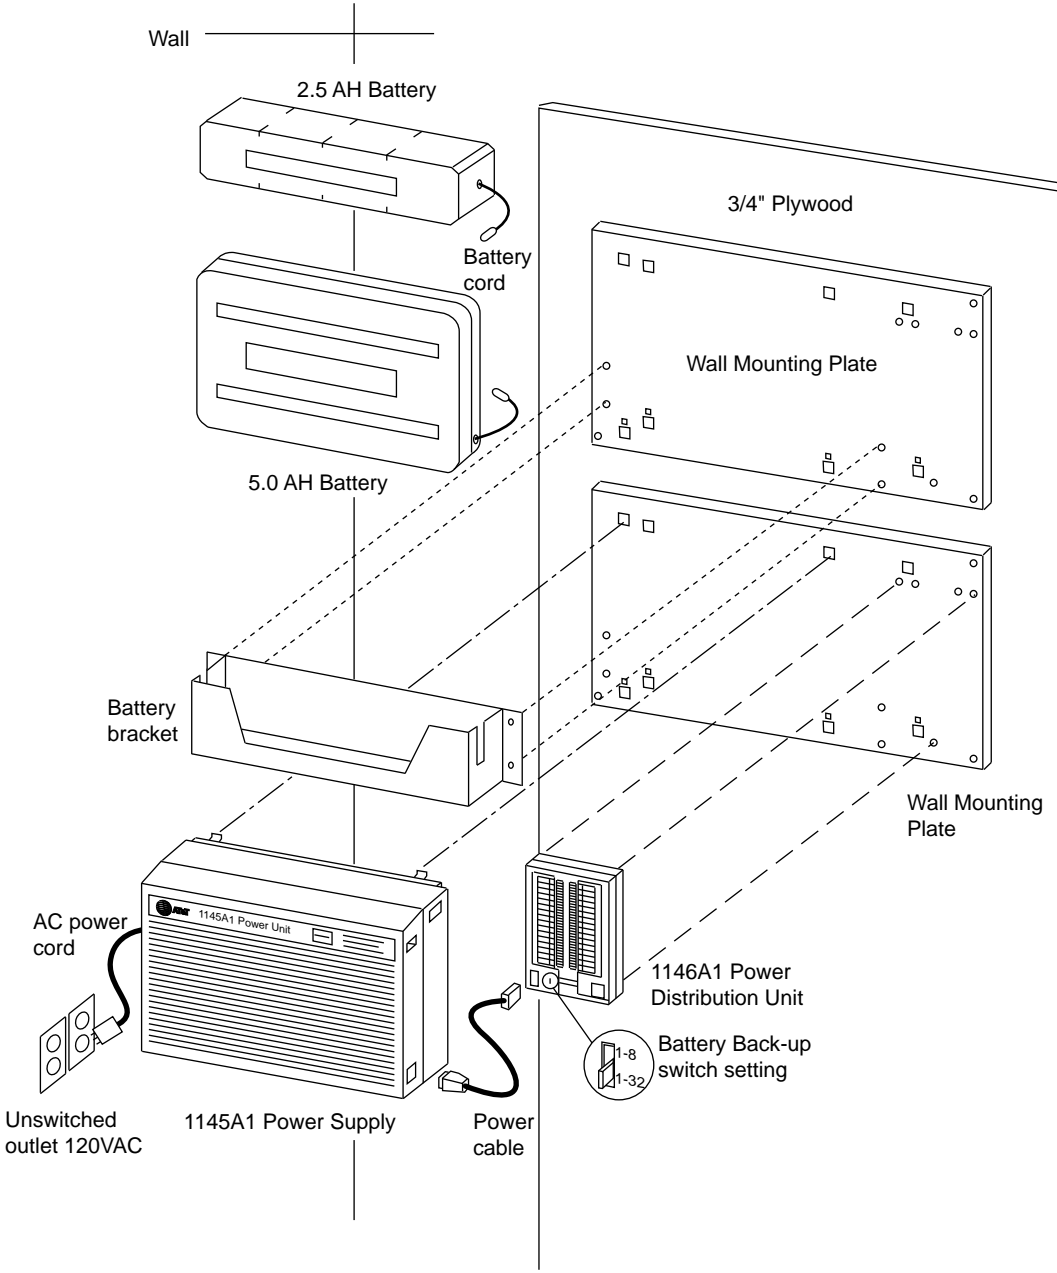

FIGURE 4-1. The 1145A1 Power Supply and 1146A1 Power Distribution Unit Power Arrangement
Figure 4-1 shows the parts needed to mount the 1145A1 power unit and the 1146A1 power distribution unit.
3. Connect the power distribution unit to the power supply with the power cable. Bend the cable as shown in Figure 4-1. Refer to the power supply's right label to locate the output power connection.